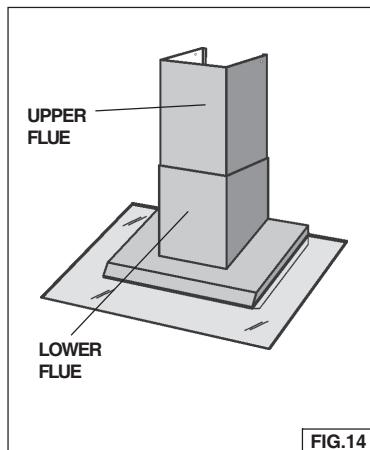

FIG.14
- Carefully place the decorative flue on the hood. Fig. 14.